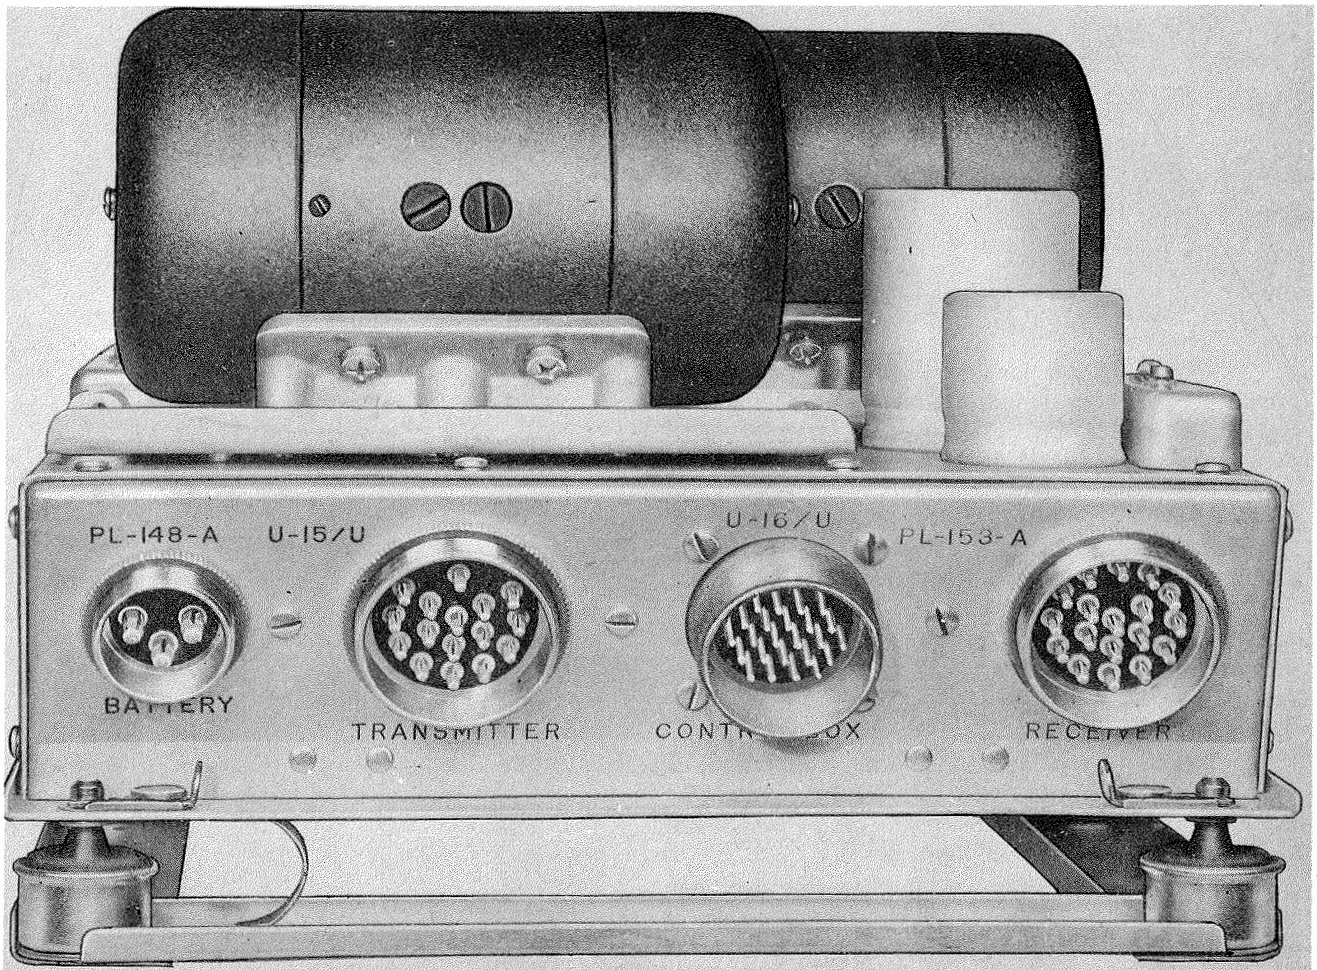

Figure 1-21. Power Junction Box J-68/ARC-3 on Mounting Base MT-236/ARC-3
(1) Power Junction Box J-68/ARC-3 or J-68A/ARC-3 performs two functions. (See figs. 1-21 and 1-22.) It serves as a mounting for Dynamotor Units DY-21/ARC-3 and DY-22/ARC-3 together with associated filters and fuses. These dynamotors supply power for the operation of the radio transmitter and radio receiver, respectively. The junction box, in addition, serves as the junction point for all interconnecting cables between the receiver, transmitter, power source, control box or panel, and control unit.
(2) Dynamotor Unit DY-21/ARC-3 is the larger of the two dynamotors located on top of the chassis. (See figs. 1-21 and 6-37.) It supplies power for the operation of the radio transmitter. Power connections are made through a three-pin socket on the bottom of the dynamotor base, which socket engages a plug on the chassis of the junction box when the dynamotor
(3) Dynamotor Unit DY-22/ARC-3 is the smaller of the two dynamotors located on top of the chassis (see figs. 1-21 and 6-37); it supplies power for the operation of the radio receiver. Power connections are provided by a three-pin socket, on the bottom of the dynamotor base, which engages a plug on the chassis of the junction box when the dynamotor unit is in position. Three snap-slide fasteners on the base of the dynamotor secure it to the chassis. The smaller of the two cans contains a filter choke for this dynamotor.
(4) Four receptacles, for all external connections, are mounted on the front apron of the chassis. This apron slopes inward to provide drainage for the plugs and prevent the excessive accumulation of moisture under humid conditions.
(5) The junction box chassis is a rectangular